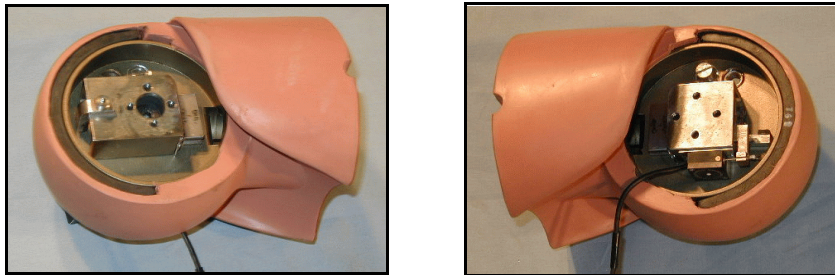

Figure 3.39 - Ball bearing slider positioning for the right knee assembly
2. Rotate the Knee Slider Assembly located on the Right Knee Assembly to position the slider base toward the femur load cell mounting hole, as shown in **Figure 3.39**.